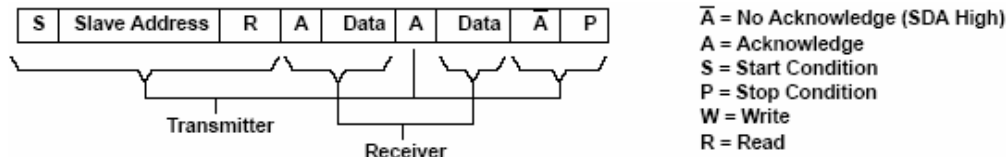
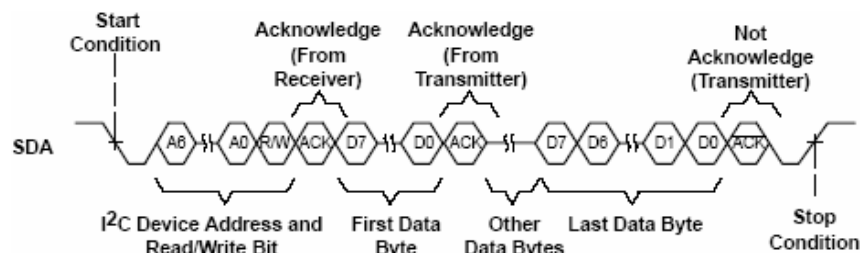

Figure 30. I²C Read Cycle
Figure 31. Multiple Byte Read Transfer
During a read cycle, the slave receiver will acknowledge the initial address byte if it decodes the address as its address. Following this initial acknowledge by the slave, the master device becomes a receiver and acknowledges data bytes sent by the slave. When the master has received all of the requested data bytes from the slave, the not acknowledge (A) condition is initiated by the master by keeping the SDA signal high just before it asserts the stop (P) condition. This sequence terminates a read cycle as shown in Figure 30 and Figure 31. See Example – Reading from the SN75DP139 section for more information.
The SN75DP139 operates using a multiple byte transfer protocol similar to Figure 31. The internal memory of the SN75DP139 contains the phrase “DP-HDMI ADAPTOR<EOT>” converted to ASCII characters. The internal memory address registers and the value of each can be found in Table 4.